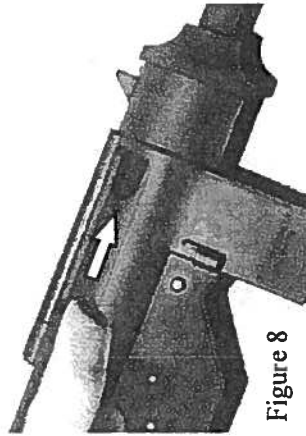

Figure 8
- 2) quickly release it, allowing it to drive forward under full spring pressure to chamber the round, (figure 8).